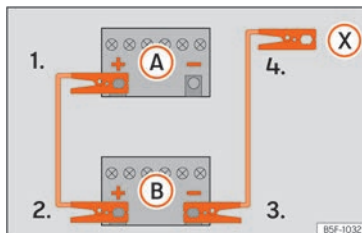

Fig. 46 Diagram of connections for vehicles without Start Stop system
2. Connect one end of the red jump lead to the positive (+) terminal of the vehicle with the flat battery **(A)** » **Fig. 46**.
- 4a. *In vehicles without a Start-Stop system:* connect one end of the black jump lead to the negative terminal (-) of the vehicle providing the current **(B)** » **Fig. 46**.